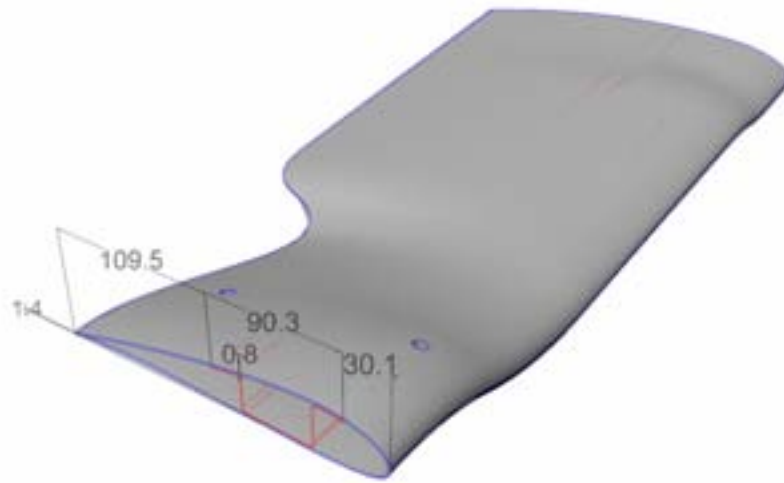

Fig. 2
2. Apply the necessary number of carbon fibre ply to restore the skin thickness at 1.4 mm (fig. 2, 3).